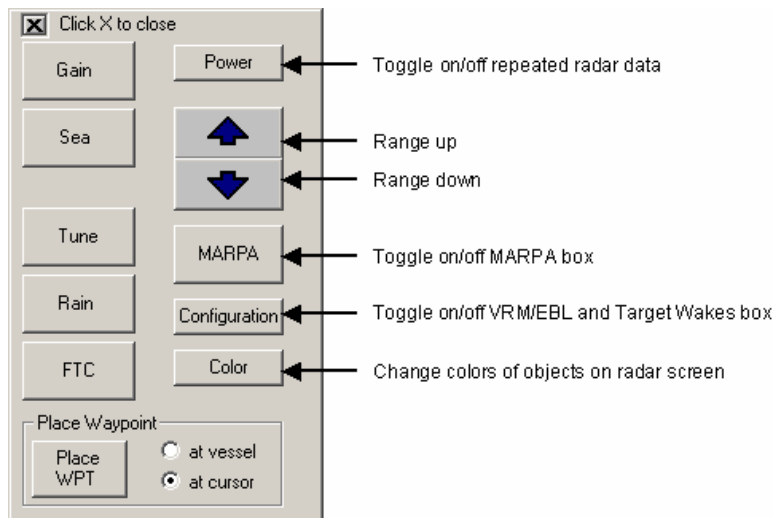

Figure 5-1. Radar Control Panel
2. Select **View/Control Panel**. The Control Panel (Figure 5-1) is displayed along the side of the radar window.